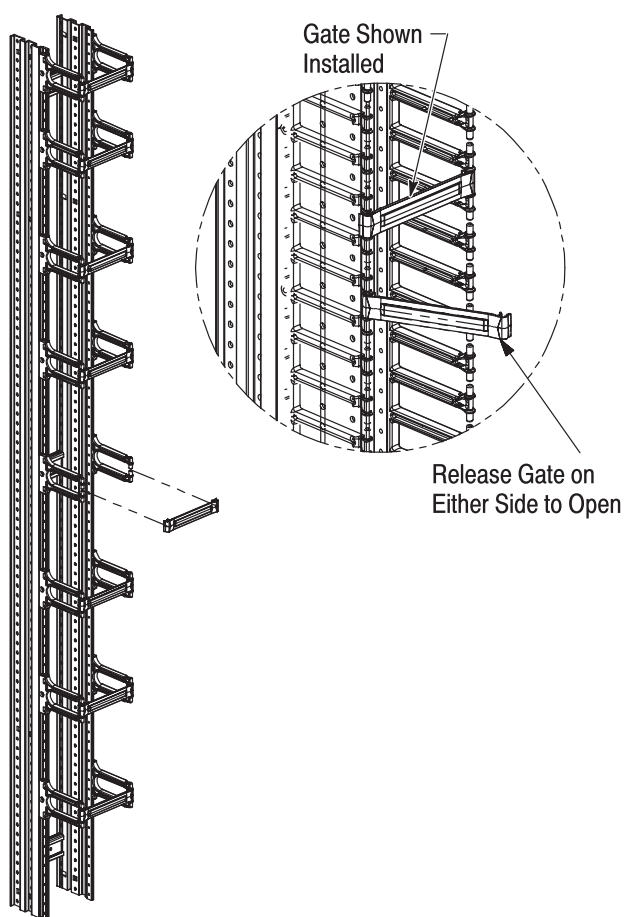

Figure 5
1.3. Gate Installation (Figure 5)